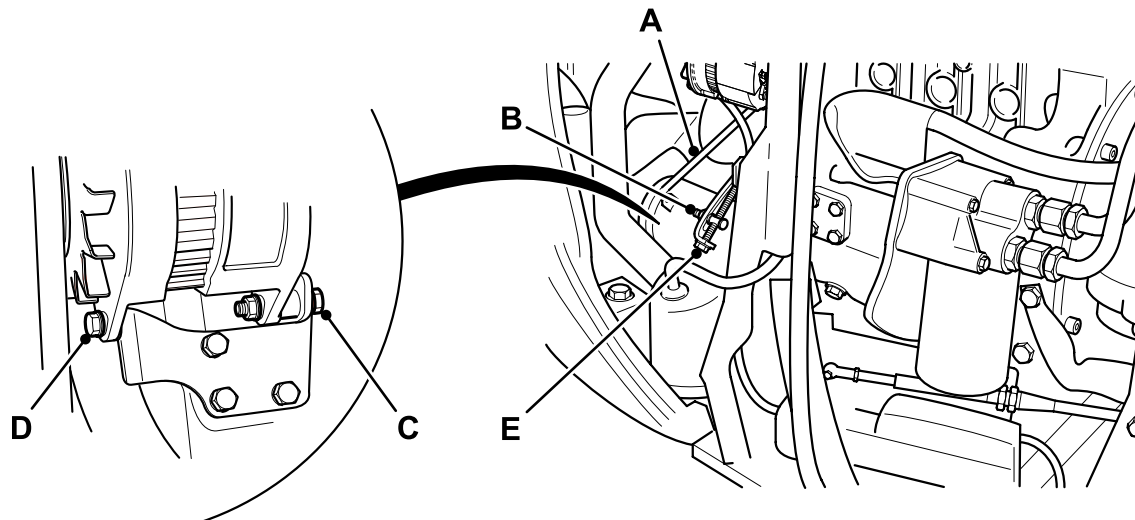

Fig 87.
- 3 Depress the compressor pump belt **A** at the centre between the crankshaft pulley and the compressor pump pulley with a finger force of 49 Nm (11 lbf, 5 kgf) approx. The belt deflection should be 7mm (0.28 in) approx. ⇒ Fig 87. \(□ 238\)